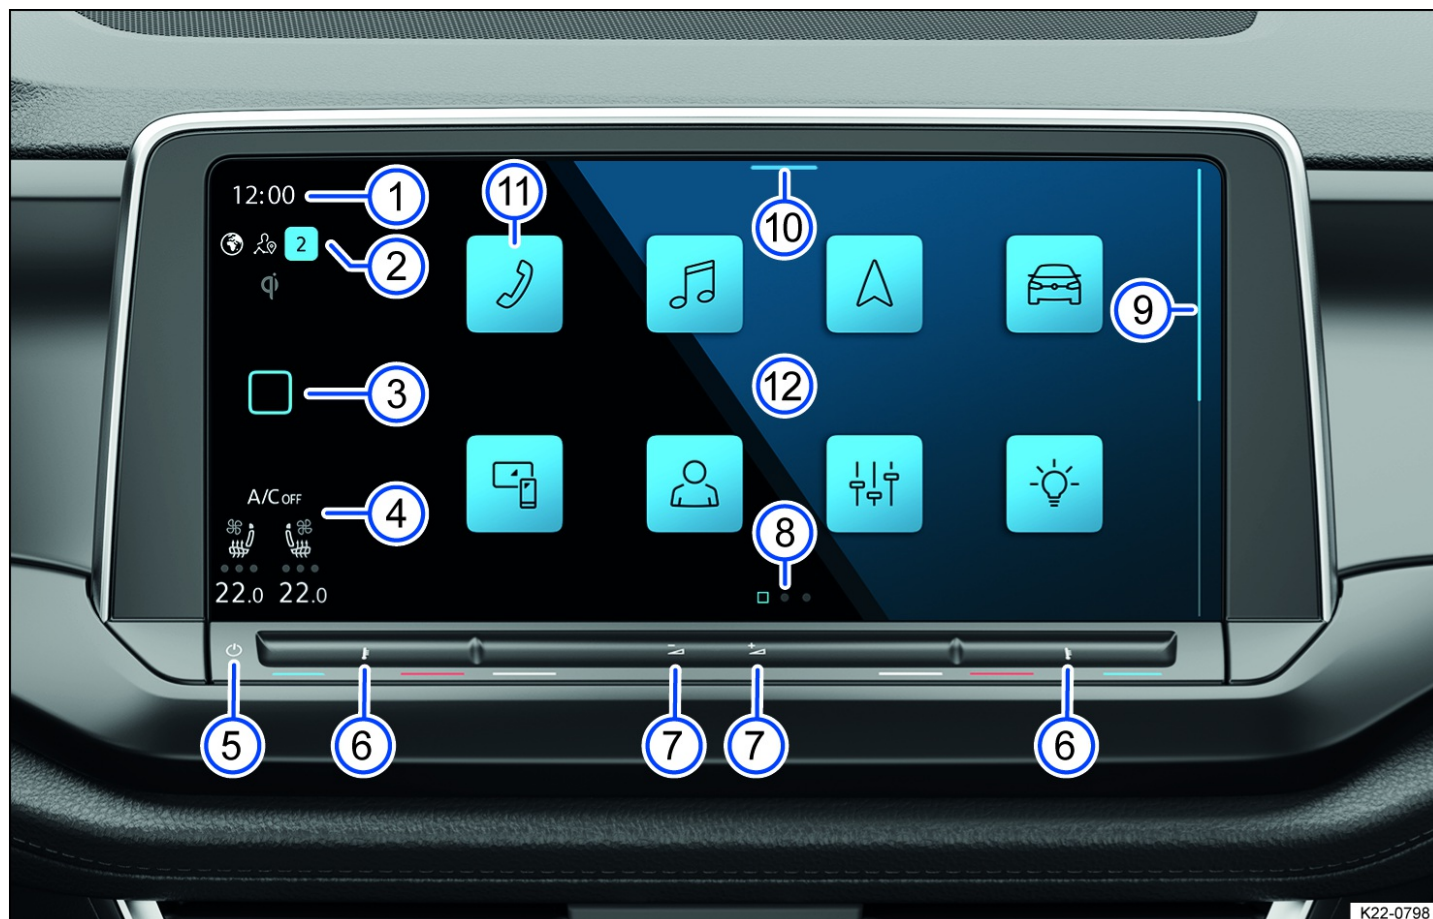

Fig. 129 Overview of the Infotainment system.
- ① Displays the time.
- ② Status display for the “Privacy settings” function (availability depends on the country) and number of notifications.
- ③ Home button: (hereinafter: **HOME**).
- ④ Function key for Air conditioner menu, temperature display (can be adjusted via fig. 129) and status display for seat heating and seat ventilation (available depending on the vehicle equipment).
- ⑤ Sensor area for switching the Infotainment system on and off.
- ⑥ Touch control for temperature.
- ⑦ Touch control for volume.
- ⑧ Pages.
- ⑨ Scroll bar.
- ⑩ Control Center.
- ⑪ Function key for main menu.
- ⑫ Screen (touchscreen).
You can operate the Infotainment system functions via the screen. The screen brightness can be adjusted via the control center fig. 129 . You will find detailed explanations of the different finger movements in the digital manual for the Infotainment system, if available ⇒ Operating the Infotainment system.